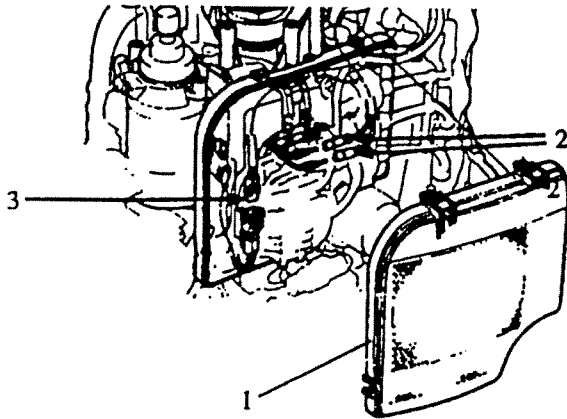
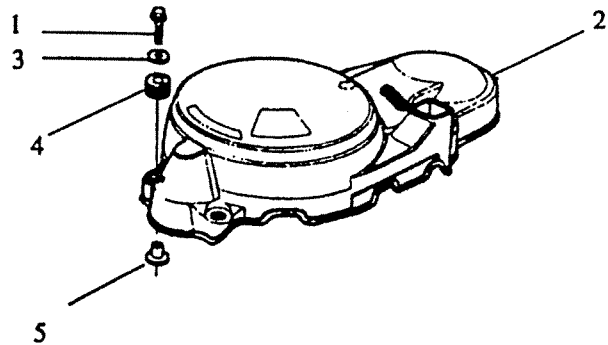

Fig. 21-1. Coil Connections
Fig. 21-2. Flywheel Cover
Remove the capacitor discharge ignition cover (1) and disconnect the charging-coil wire (2) (Fig. 21-1), and recover the M6 washers (3), rubber grommets (4) and collars (5) (Fig. 21-2).
Unscrew the two M6 screws (1) and two M8 screws securing the flywheel cover (2) - Fig. 21-2, and exciter-coil wire (3) connectors - Fig. 21-1.